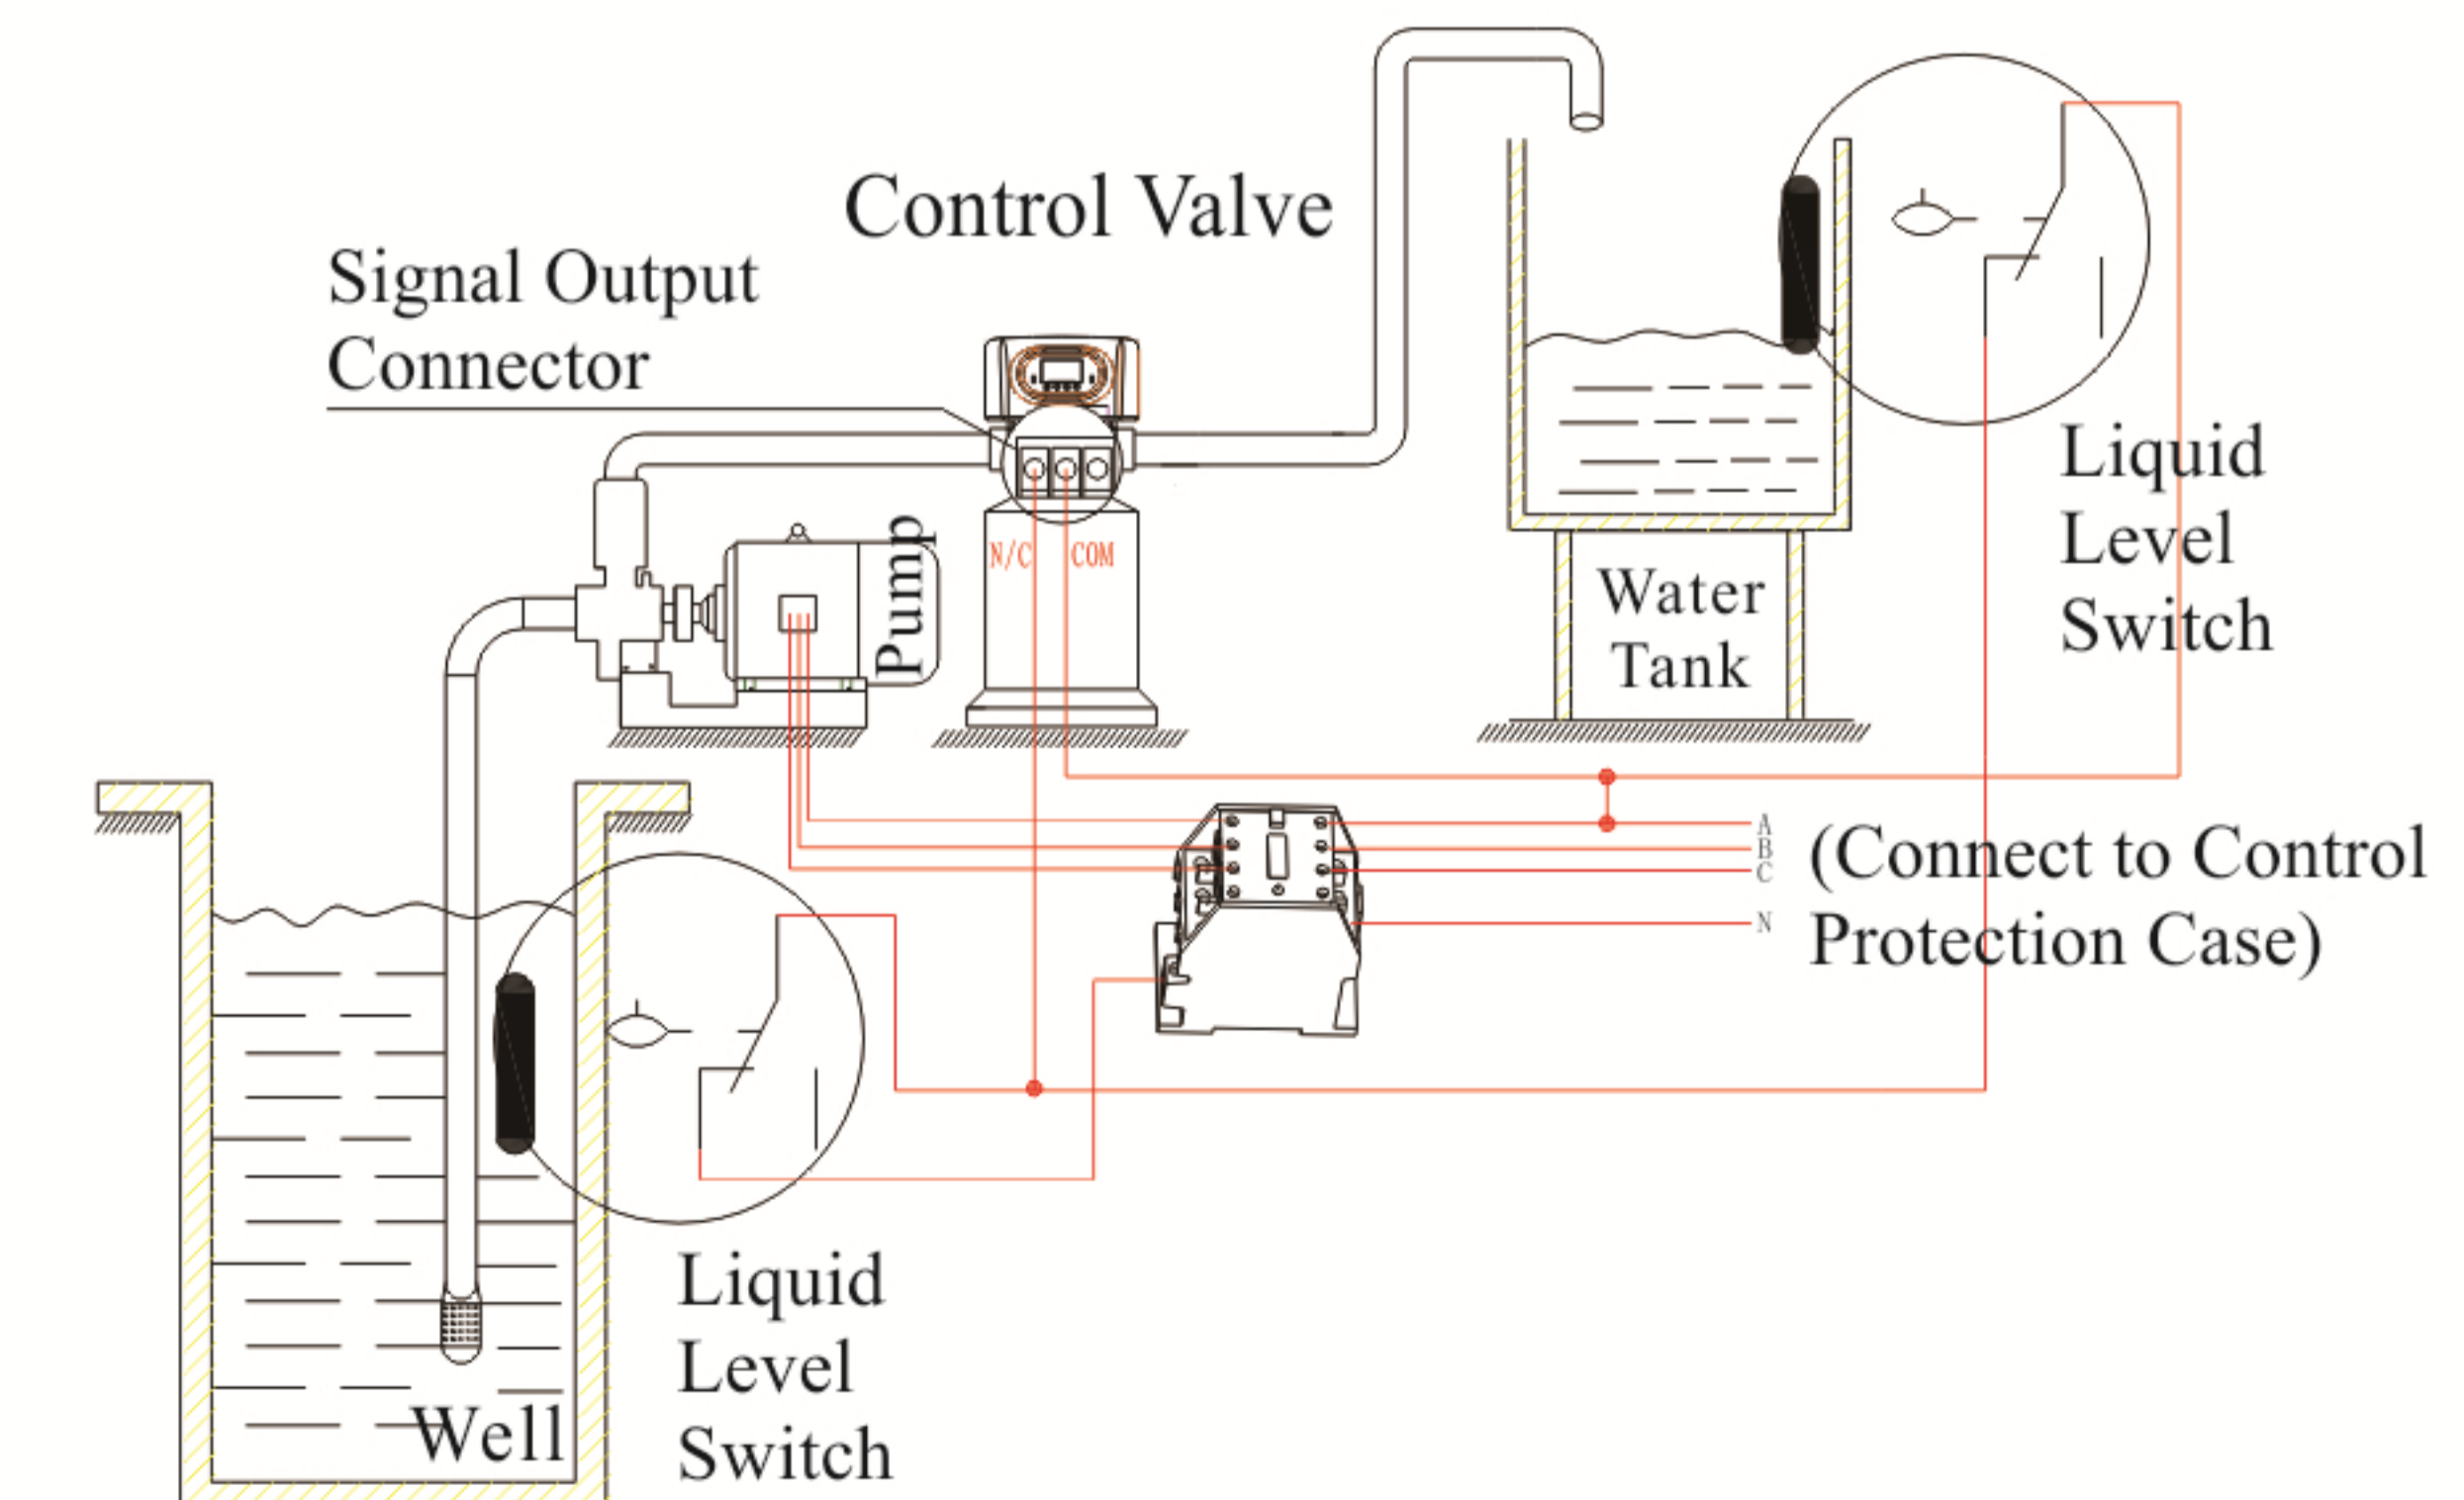

Figure 3-6 Wiring of Liquid Level Switch in Water Tank Controls Inlet Pump
3) Liquid Level Switch in Water Tank Controls Inlet pump (Three-phase, Figure 3-6) (Set b-01)